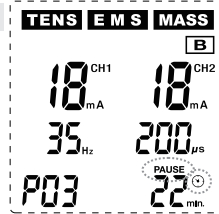

Fig. 17
**Pause mode:** If you wish to pause during the application, you can press the key ⑥ (P/II) in the operating mode in order to access the pause mode. The pulse output is interrupted and the yellow indicator lights ① for channel 1 (CH1) and/or ② for channel 2 (CH2) go out. On the display, the PAUSE symbol above and the symbol (⊖) next to the minute information (see Fig. 17) will flash. In order to continue the application, press the key ⑥ (P/II) again and the device will return to the operating mode and resume the application.